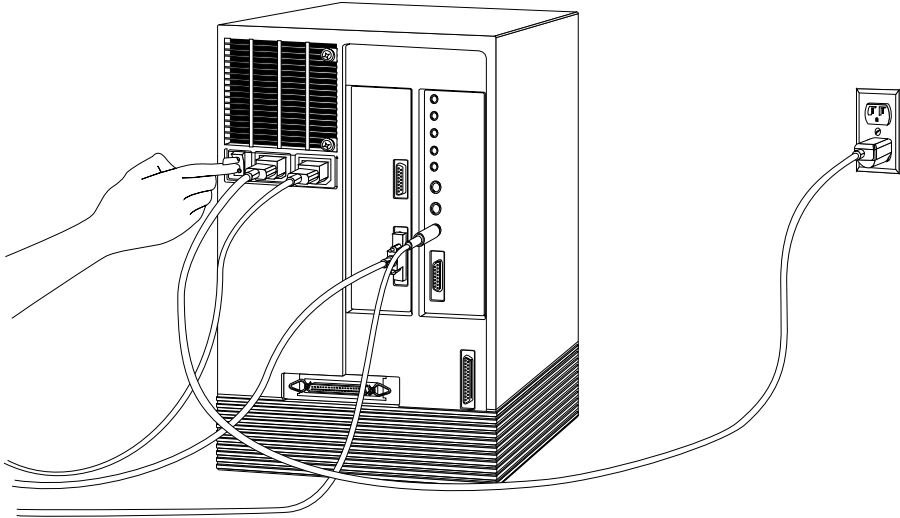

Figure 2-28 Turning Off the Power Switch
- 4. If you wish to power off the system, press and release the power button, as shown in Figure 2-28.